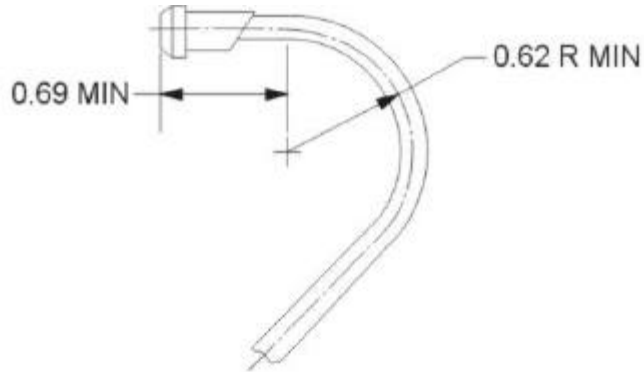

Figure 1. Fuel Line Showing Minimum Dimensions for Bending
2. Remove any line that appears faulty. Do not attempt to repair any line that leaks. Bent lines may be straightened; however, any line with an inside radius less than 5/8 inch must be replaced. Do not reuse any line that is dented; cracks can develop at the site of a dent. Also inspect solder joints at end of lines for cracks. Replace cracked lines, they cannot be repaired. See the latest edition of Service Instruction No. 1301 for superseded fuel line identification, bending requirements (see Figure 1) and replacement information.